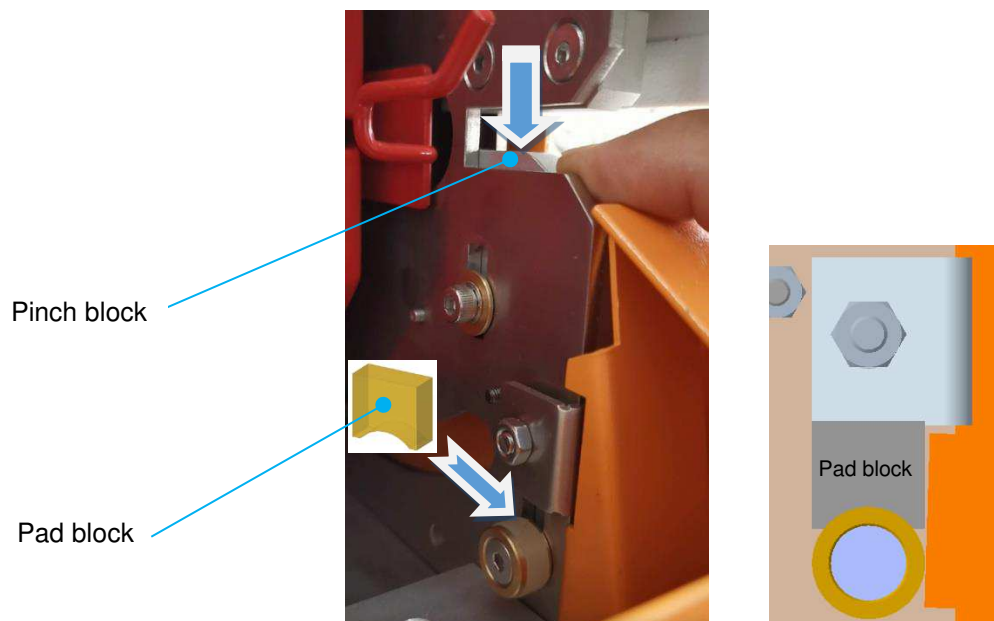

Fig.4 Insert Pad block
2. Fig.4 , press on the pinch block, and insert the Pad Block. Both left and right side.